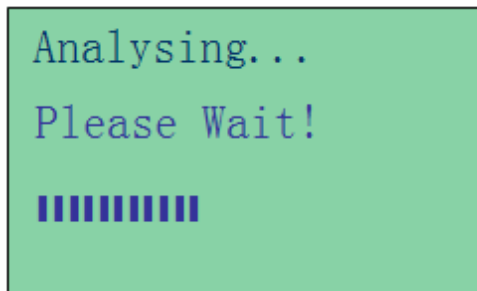

Figure 29
9. Now you need to press **ENTER** key to proceed and the display will show as follows (Figure 29).